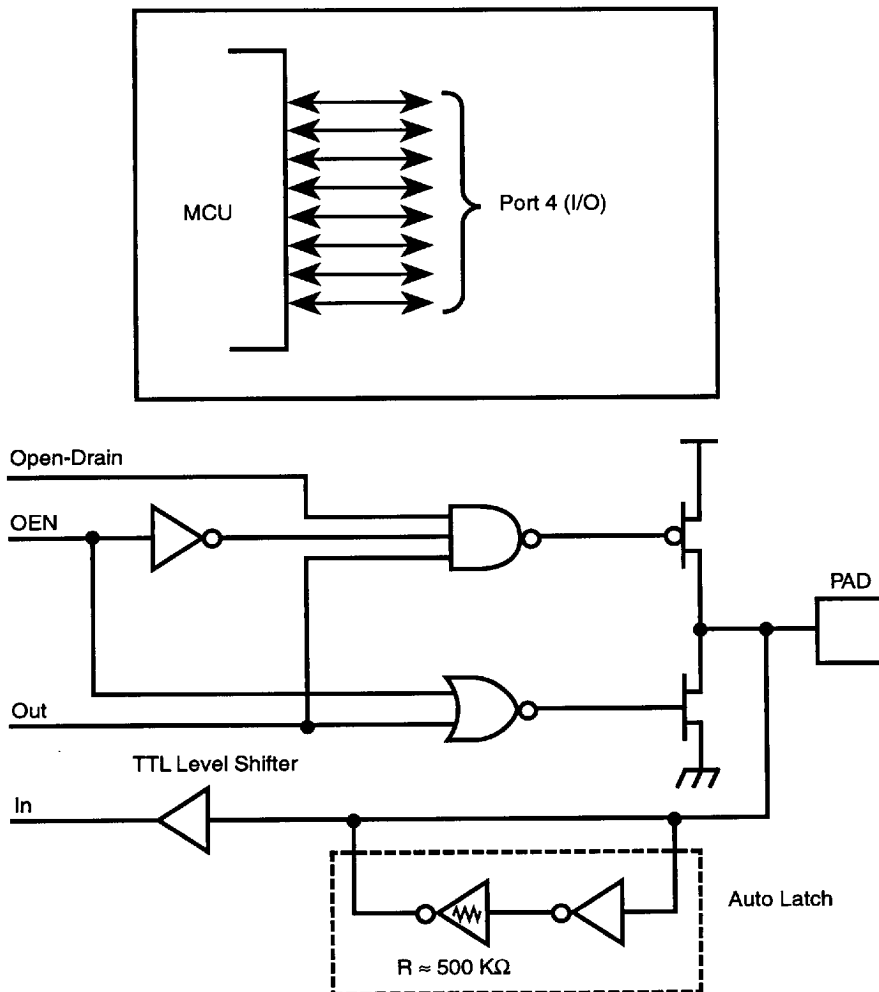

Figure 14. Port 4 Configuration
Port 4 (P47-P40). Port 4 is an 8-bit, bit programmable, bi-directional, CMOS compatible port. Each of these eight I/O lines can be independently programmed as an input or output or globally as an open-drain output. Port 4 is always available for I/O operation (Figure 14). Port address (F)02.